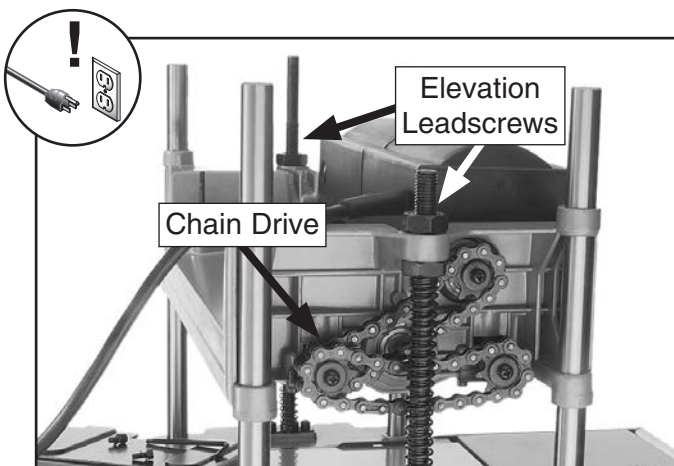

Figure 25. Elevation leadscrews and chain drive exposed for lubrication.
2. Remove the elevation crank, the top cover, both side panels, and the inner cover, as shown in **Figure 25**.